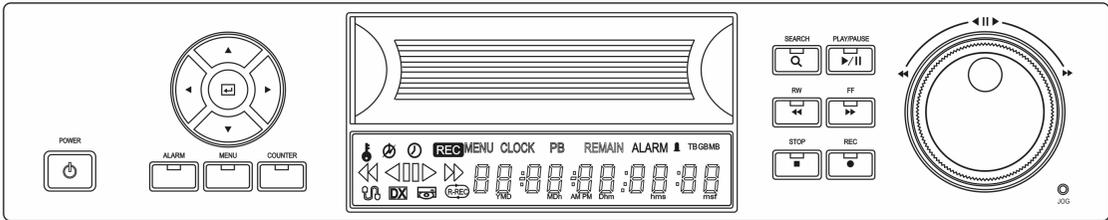

Figure 17 — DVR front panel
3. Holding the hard disk drive by the handle, slide it gently into the DVR until it stops. (See Figure 17 for correct orientation.)